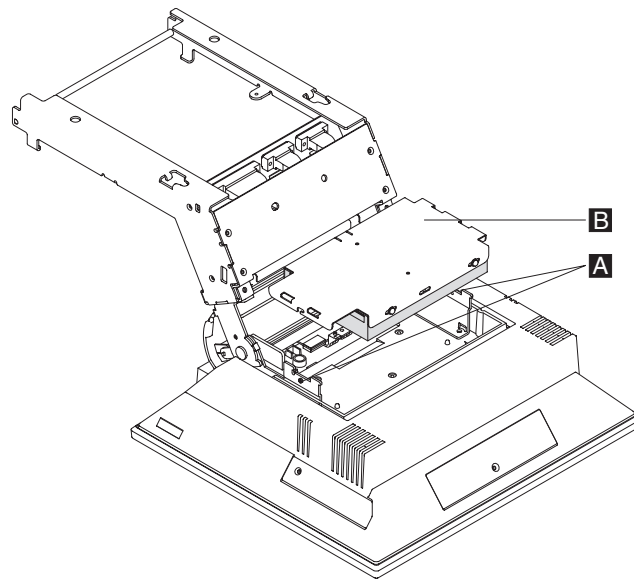

Figure 123. Removing the HDD
5. Loosen, but do not remove, the two screws (**A** in Figure 123) from the HDD mounting bracket and gently move the HDD and bracket assembly **B** up and away from the display. Continue to support the HDD to prevent damage to the power connector and data cable connector.